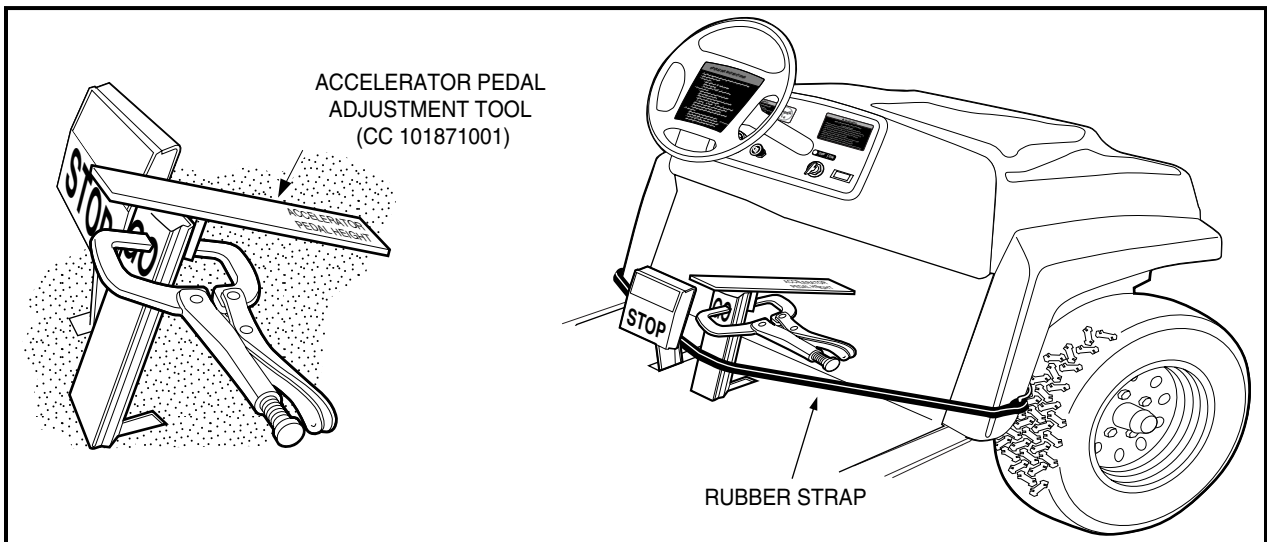

Figure 5-9 Accelerator Pedal Height Adjustment
- 5.1. Clamp the accelerator pedal adjustment tool (CC 101871001) to the accelerator pedal, with the end marked **accelerator pedal height** closest to the floorboard (**Figure 5-9, Page 5-7**).